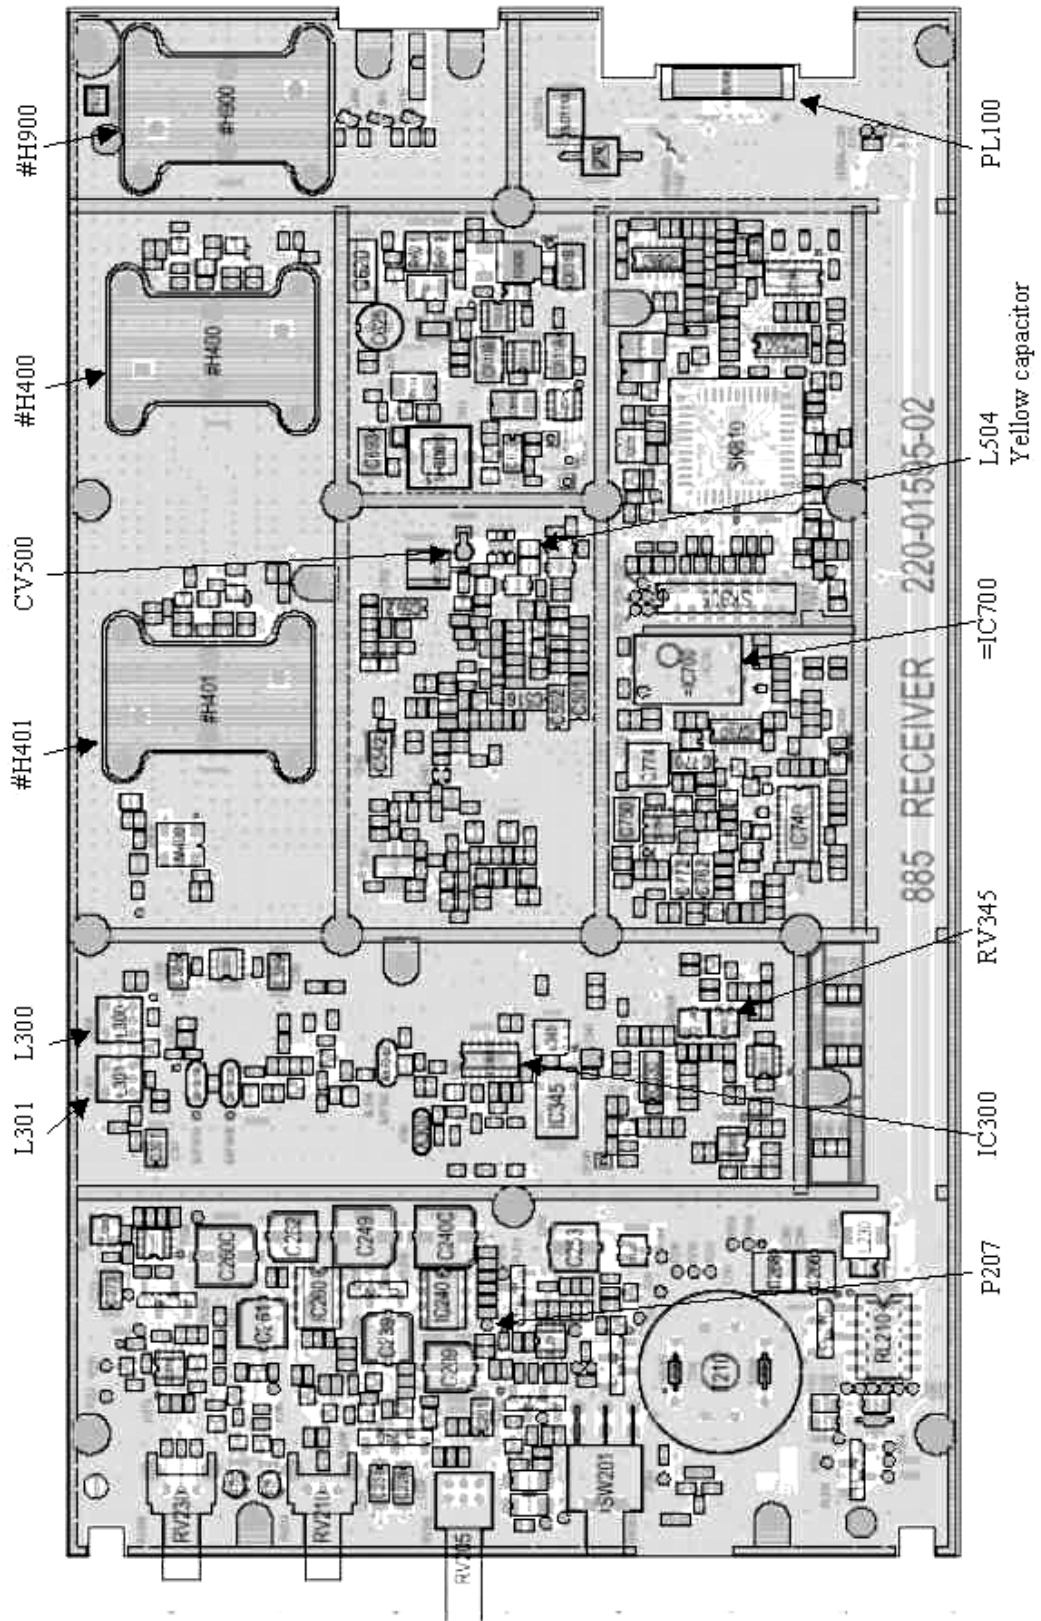

Figure 17 - T885-0200 Receiver Tuning Controls location
- Caution: mis-adjusting RSSI may reduce the Paragon-III's Parallel Decode (PD) performance.
- Refer to Figure 17 - T885-0200 Receiver Tuning Controls location